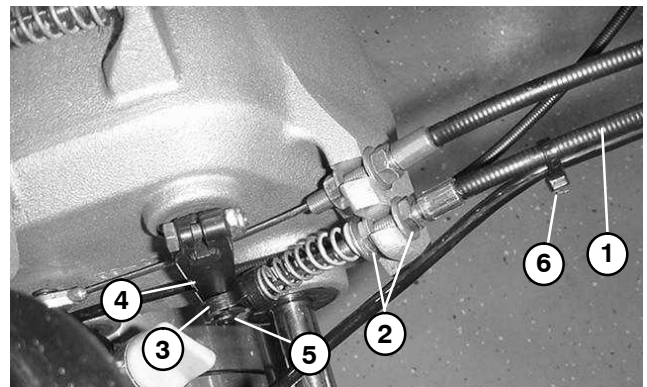

Figure 7
3. Remove traction cable from the gearbox as follows (Fig. 7):
2. Route traction cable to the gearbox. Install cable to the gearbox as follows (Fig. 7):